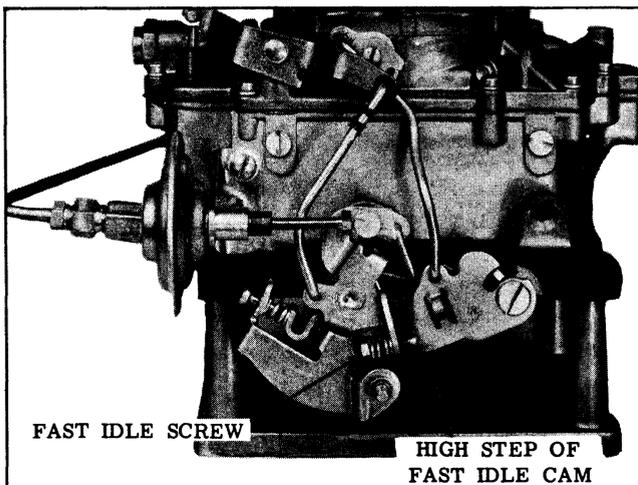

Fig. 8-112 Fast Idle Adjustment
2. Set fast idle screw on high step of fast idle cam. (See Fig. 8-112)